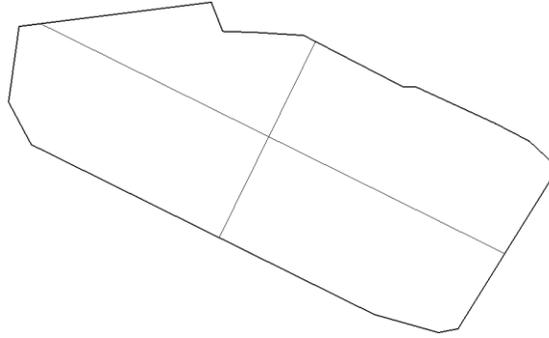

Figure 117: Planar surface representing the floor of the pit
14. **_Delete** the original (light blue) contour line, select the Polyline you just created and type **_PlanarSrf** to create a surface spanning across the Polyline. Delete the Polyline (Figure 117). Rename “Layer 01” to “surfaces”. Select the polysurface, right click on the “surfaces” layer and select Change Object Layer.